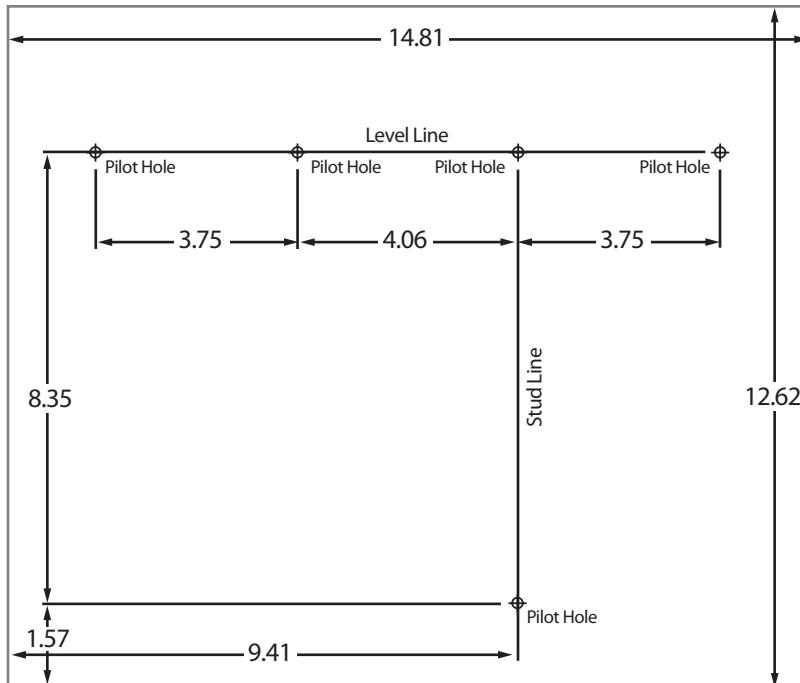

Figure 1
1. Attach the mounting template (included; see Figure 1) to the mounting wall where the controller cabinet will be installed. Ensure that the template level line is level and that the stud line on the mounting template is aligned with a wall stud or other solid surface.